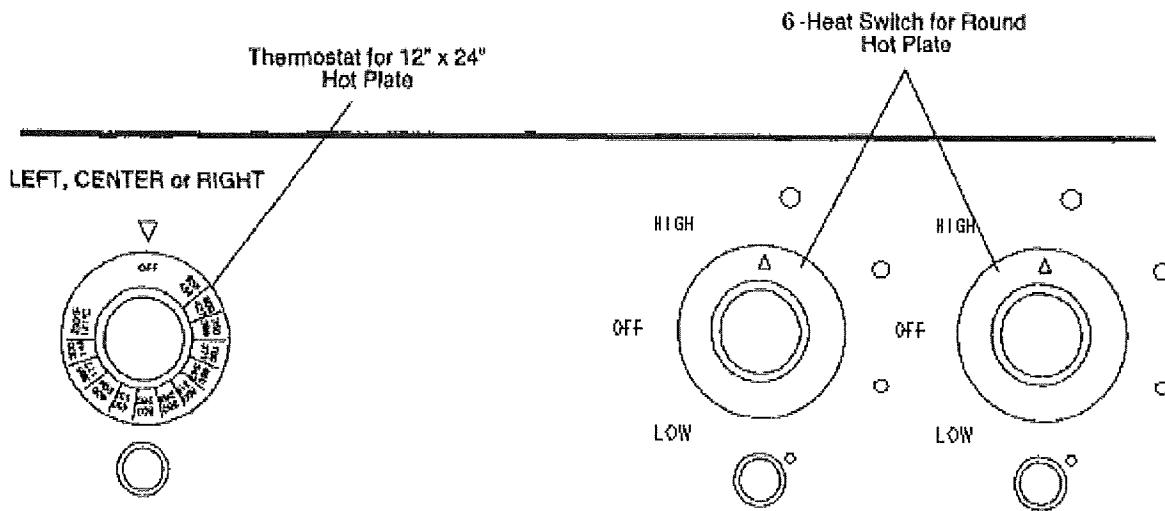

Figure 3-5
2. 12" x 24" Hot Plate is controlled by a Temperature Thermostat Control (see Figure 3-5) adjustable from 250°F to 850°F (121°C to 455°C). The 12" x 24" hot plate will preheat to 400°F(204°C) in 12 minutes. Adjacent green light remains on while heating elements are energized and griddle is coming up to set temperature.